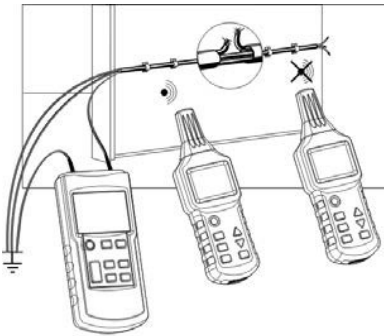

Fig. 9
5. Connect the COM terminal of the transmitter to ground. All other conductors of the cable must also be connected to the transmitter and to the same ground (see Fig. 9).